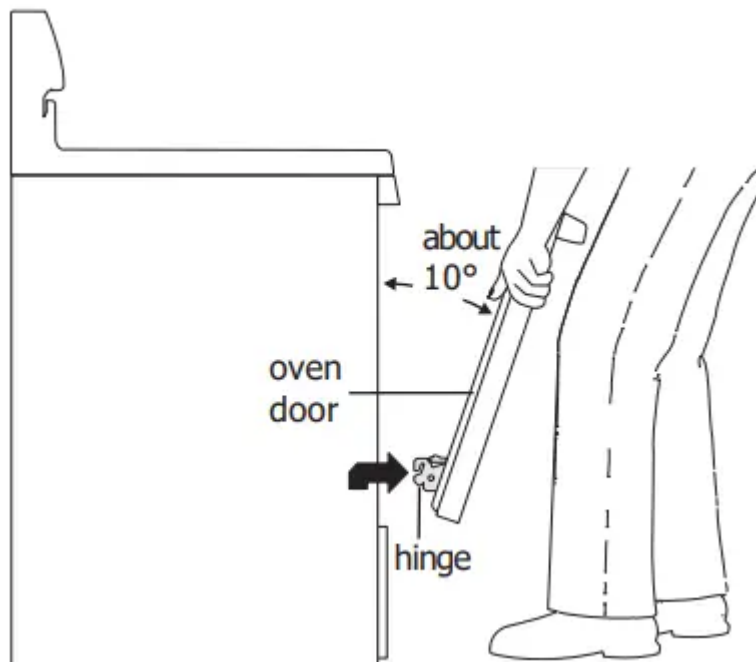

Figure 28: Holding door for removal
3. Firmly grasp both sides of oven door along the door sides (See Figure 28).
4. Close the door to the stop position (the oven door will stop into this position just before fully closing). (See Figure 28).
1. Firmly grasp both sides of oven door along the door sides. Do not use the oven door handle (See Figure 28).